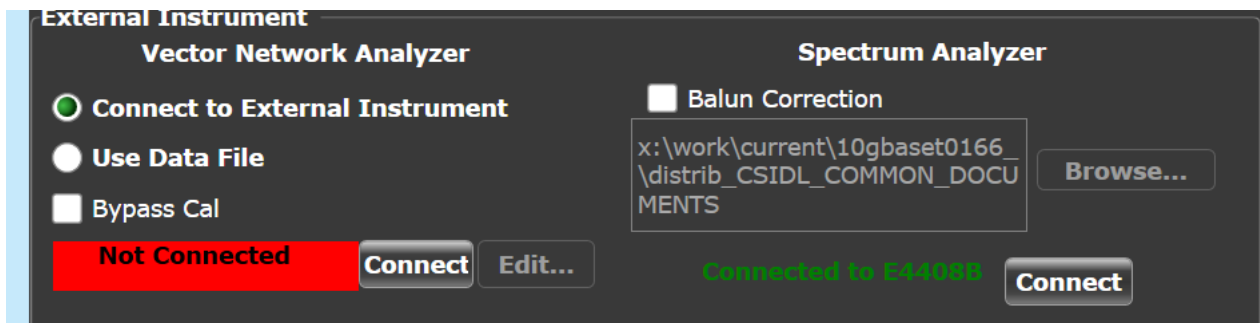

Figure 28 Connection status after the Test App detects the Spectrum Analyzer
- 12 Once the 10GBASE-T Ethernet Test Application detects the Spectrum Analyzer, it is indicated on the **Set Up** tab as shown in Figure 28.